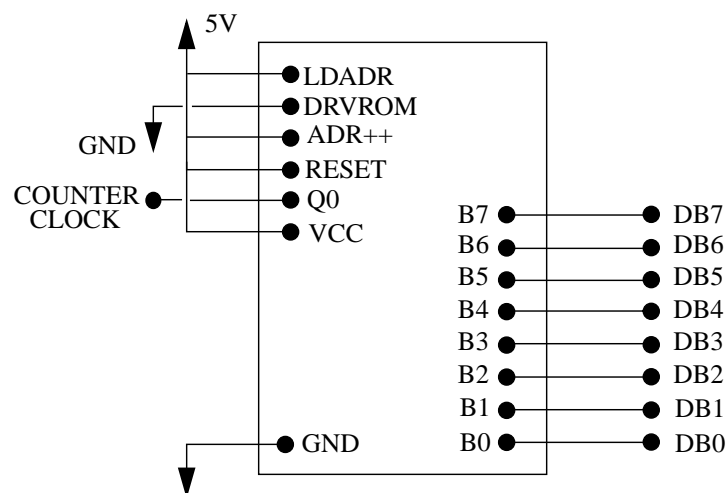

Figure 1: pin assignments for the printed circuit board that contains the counter and memory.
Figure 1 shows the pin assignments for the printed circuit board. The pins for the eight memory output data bits are on the right hand side. The pins for power and ground, and the clock input to the counter are on the left hand side. You should connect the
power pin to the 5-V power supply on the protoboard, and the ground pin to ground on the protoboard. There are also four counter and memory control pins which must be connected to the 5-V power supply and ground as shown in Figure 1.
- (4-5) Connect the eight data-bit inputs of the digital-to-analog converter to their corresponding data-bit outputs from the memory; refer to Figure 1 for the memory pin assignments. With the oscilloscope, observe the converter output  $v_{\text{DAC}}$ . You should see an audio signal